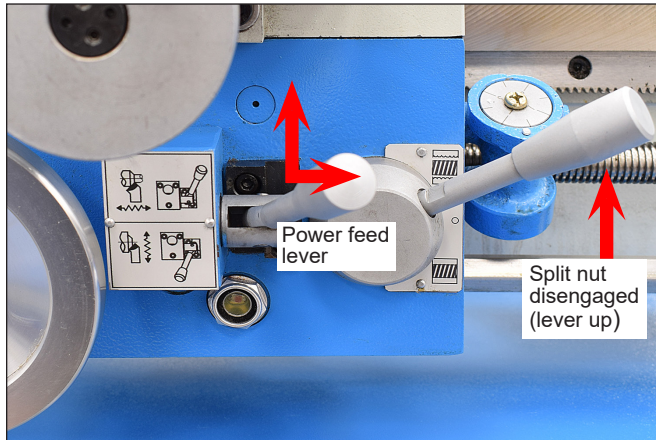
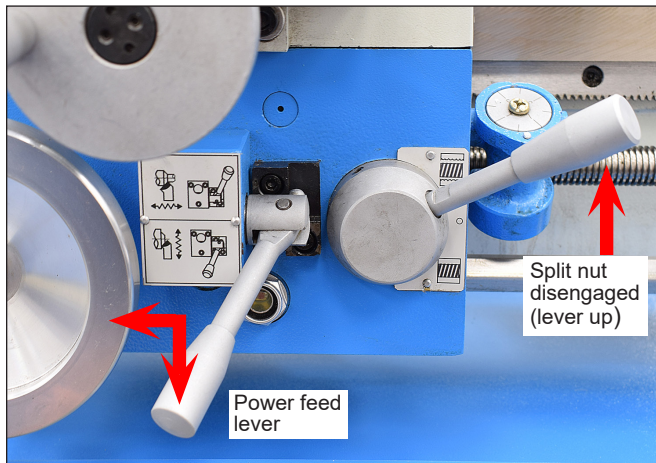

Figure 3-19 Saddle feed Lever RIGHT and UP
Figure 3-20 Cross-slide feed Lever LEFT and DOWN
4. Install the selected gear pairs on the upper and lower keyed bushings; install the selected lower gear on the gearbox input shaft, bearing in mind the **location of the internally keyed bushings**, above or below the gears, see Figures 3-20, 3-21 and 3-22.
Engage the saddle feed by shifting the power feed lever to the right, then up, Figure 3-19. Engage the cross-slide feed by shifting the power feed lever to the left, then down, Figure 3-20. Disengage by shifting the lever to its mid-position,